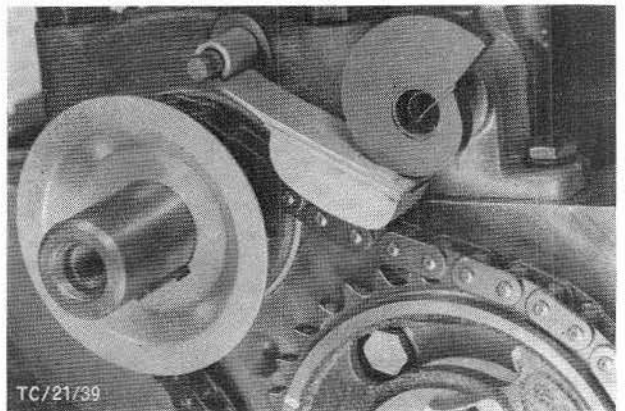

Fig. 48. Chain tensioner installed.
43. Fit timing chain tensioner and torque bolts as specified. Compress spring and slide tensioner arm on to pin on main bearing cap. Release chain tensioner spring, Fig. 48.